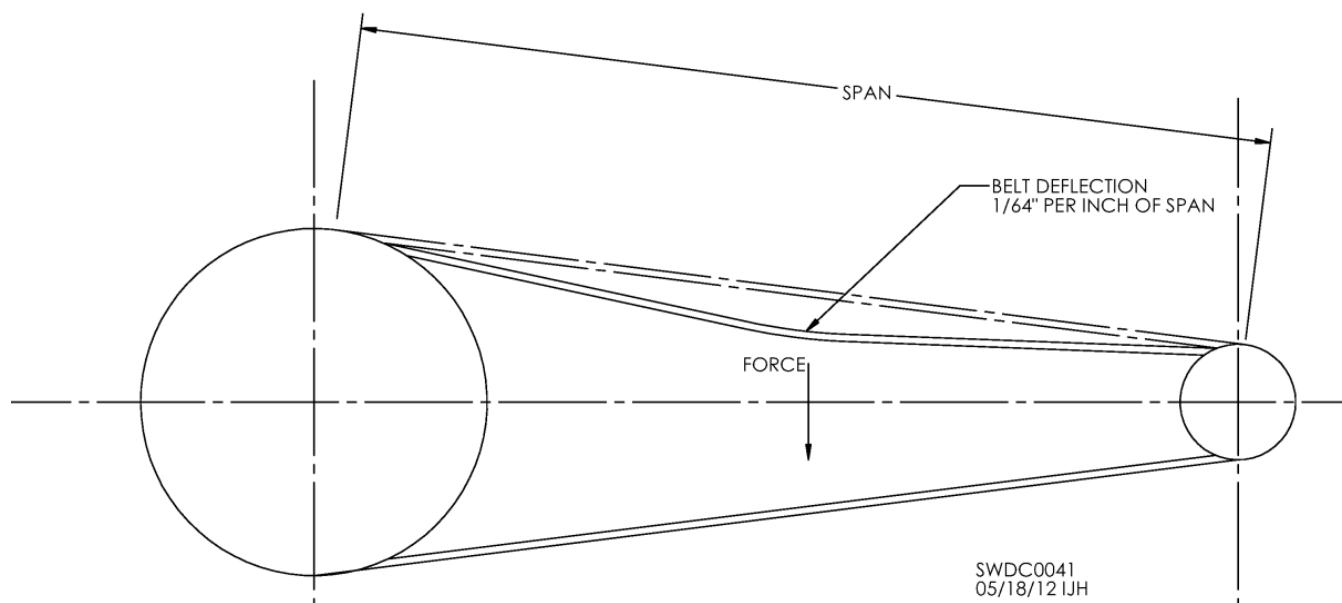

Fig. 3-1 – Adjusting belt tension
See Table 3-4 and Fig. 3-1 to properly tension belts.
1. Measure span length. See Fig. 3-1.